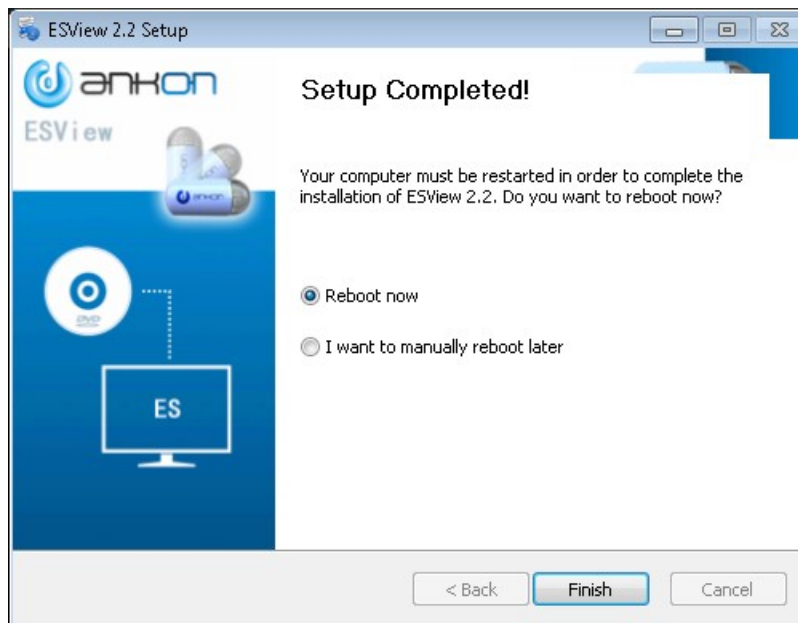

Figure 3-5: Successful Installation Dialog Box
5. After ESView software is successfully installed, the “Setup Completed!” dialog box (Figure 3-5) appears. Click “Finish” to complete installation. A shortcut to the ESView program is created on the desktop.